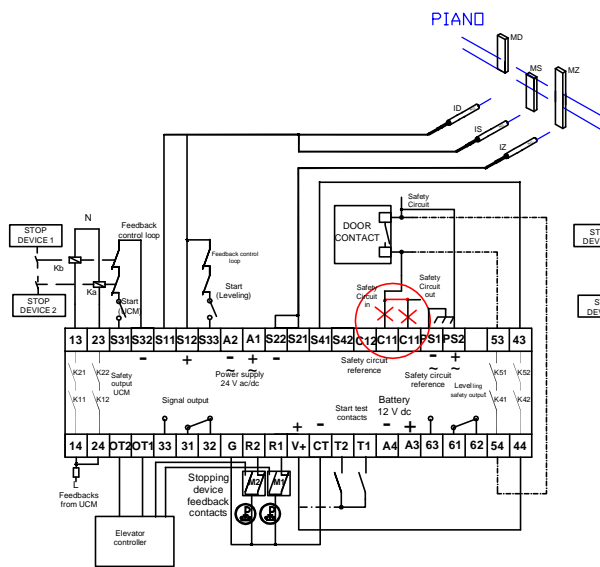

FIG. 1 Uncontrolled movement test
- 4) Change the electrical connection as indicated in fig.1 (AnnexA)